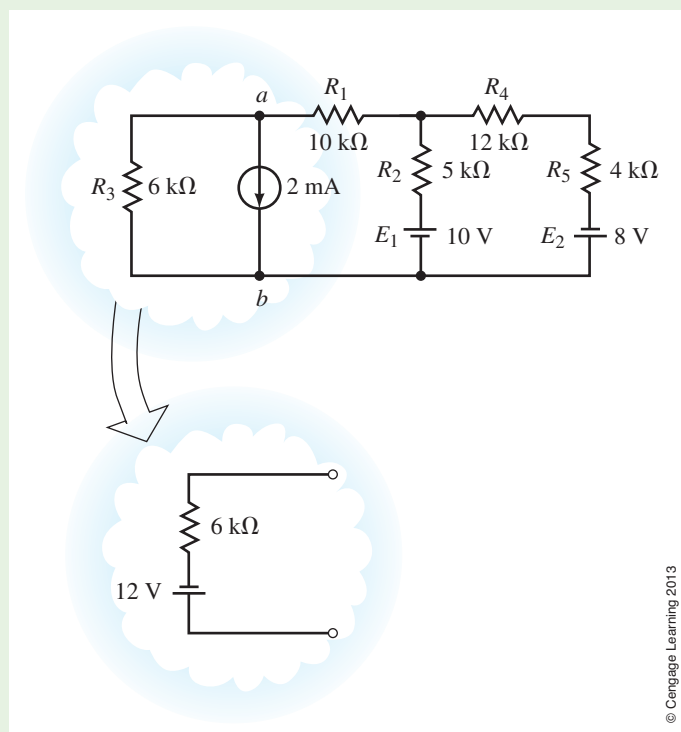

FIGURE 8-27
Step 1: Although we see that the circuit has a current source, it may not be immediately evident how the source can be converted into an equivalent voltage source. Redrawing the circuit into a more recognizable form, as shown in Figure 8-27, we see that the 2-mA current source is in parallel with a 6-k Ω resistor. The source conversion is also illustrated in Figure 8-27.